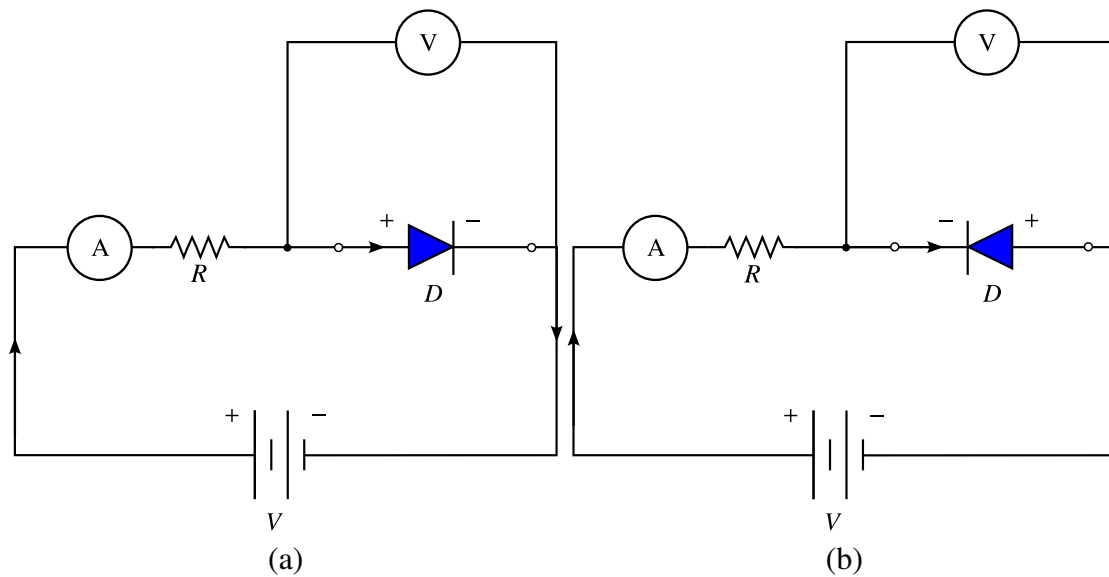

Figure 4: (a) Forward bias circuit. (b) Reverse bias circuit.
1. Assemble the circuit on your breadboard as shown in figure 4(a). Connect to the 0 – 30 V DC power supply.
1. Assemble the circuit on your breadboard as shown in figure 4(b). Connect to the 0-30 V DC power supply.